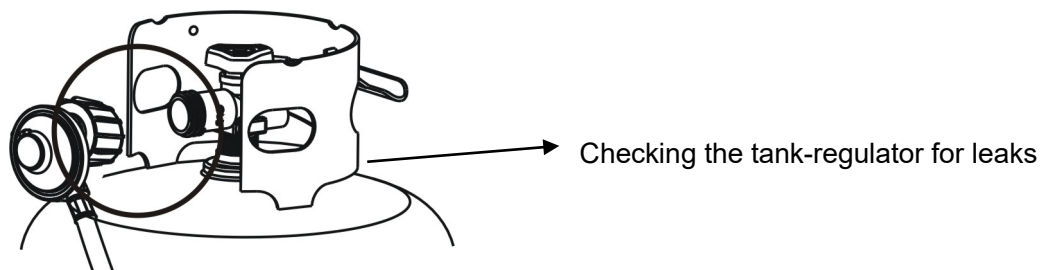

Figure 12
12. Open the tank valve. Apply a solution of soapy water to the tank-regulator connection and to the valve-hose connection to check for leaks as shown in Figure 12. If soap bubbles continue to form, the connection leaks. If a leak is found, close the tank valve and tighten all connections.